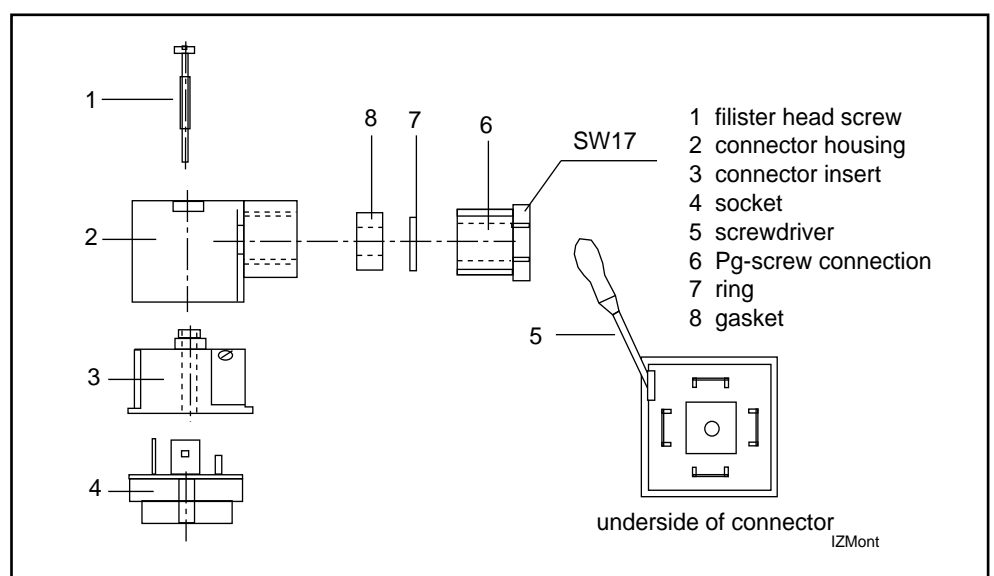

Figure 3.22: Mounting the connecting cable to the blower connector
Mounting guidelines for mounting the connecting cables to the blower connector: (see Figure 3.22)
- Pry out connector insert 3 with screwdriver 5 (see Figure 3.22), and pull out of connector housing 2.